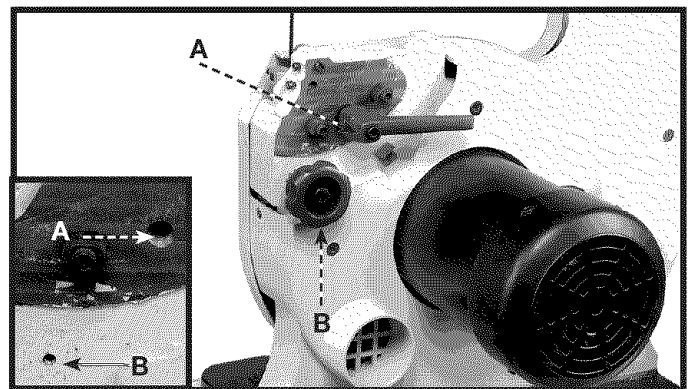

Fig. 10
- Remove table locking lever (A) Fig. 10 and table tilt pinion knob (B). Be careful not to lose these parts. (These components were assembled at the factory for transit purposes only).